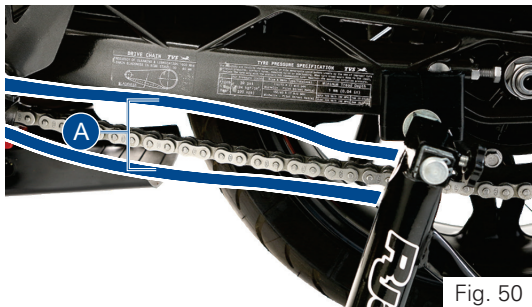

Fig. 50
- Loosen the rear axle nut (1) using a proper spanner from the tool kit (ref. Fig. 50).